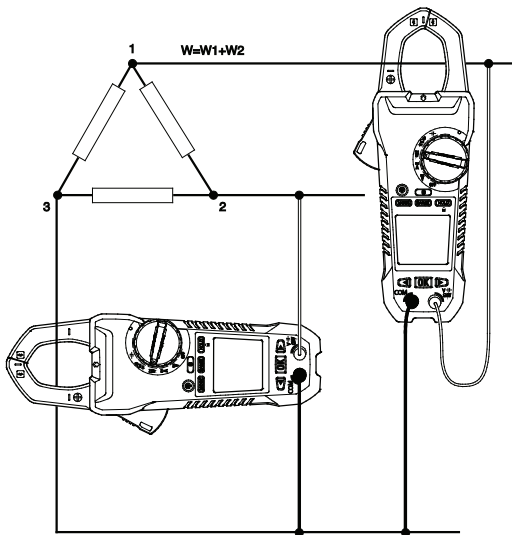

Figure 5.4 Three-phase three-wire measurement
The power of a three-phase three-wire delta configuration is measured in two steps, in accordance with Figure 5.4. The total power is the sum of the two measurements: $W = W_1 + W_2$.
3. Take two measurements of the active power, in accordance with Figure 5.4.